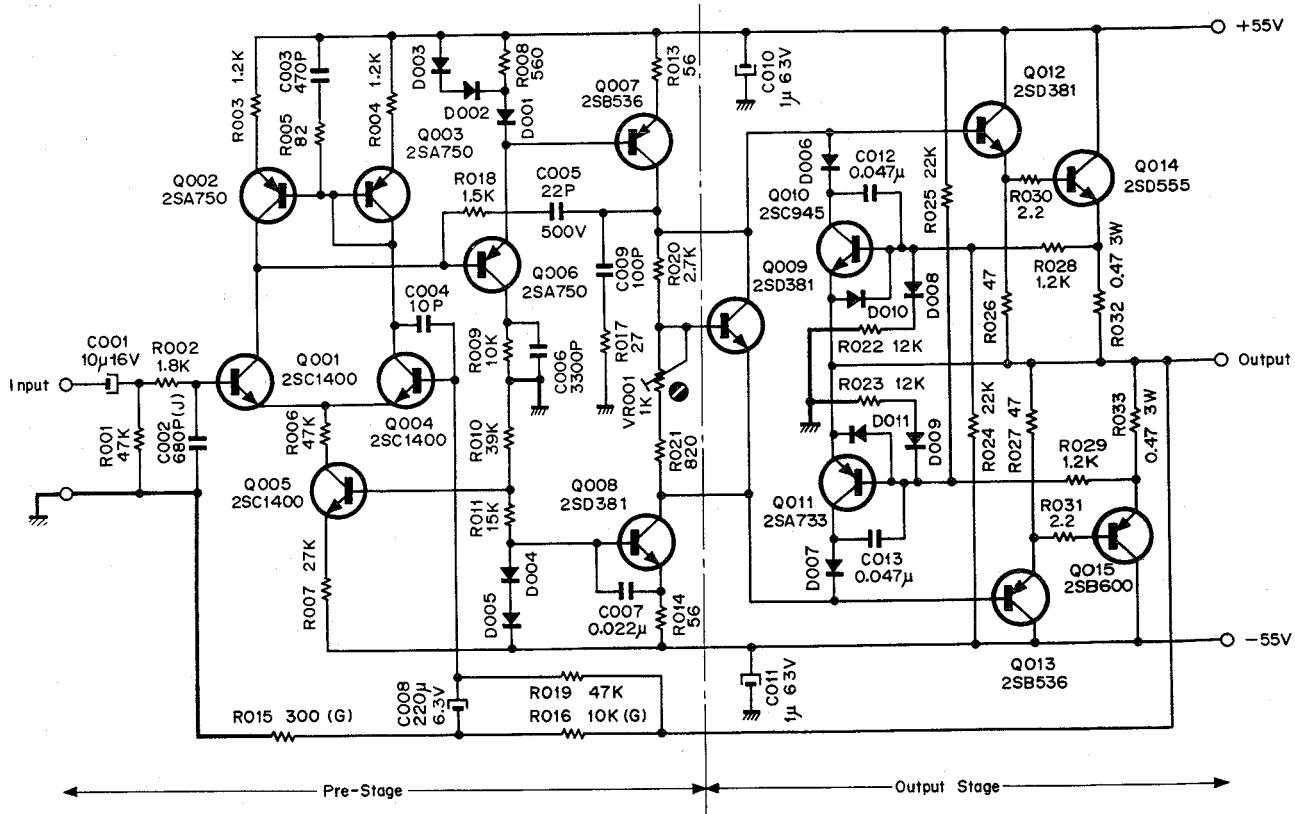
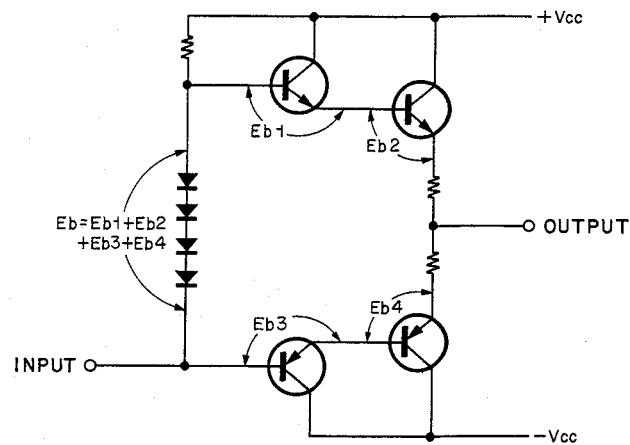

Fig. 2.5.8 Power Amplifier
Fig. 2.5.9 Conventional Circuit
Refer to Fig. 2.5.8.
Especially for a class B push-pull amplifier, distortion cannot be reduced unless the positive and negative signal amplifiers are well balanced. The amplifier in the N-730, however, is best balanced thanks to the vertically and horizontally symmetric configuration as shown in Fig. 2.5.8. This circuit allows distortion of only 0.1% at 1 kHz 105 watts output even without NFB. This degree of distortion is low enough to make the amplifier used as a high-fidelity unit even if it is given no NFB.
Fig. 2.5.9 shows that a change in current flowing across the diode varies the terminal voltage and that E_b changes with signal current. These changes result in the generation of distortion. It is a matter of course that signal current flowing across the diode will produce distortion. See Fig. 2.5.8. Transistor Q009 that generates bias voltage from an emitter-follower circuit of class A operation. Thus this circuit does not induce distorted signals.
For an ordinary class B amplifier, crossover distortion is reduced by increasing idling current thus overlapping the operating ranges of the positive and negative transistors. The overlap portion acts as a class A amplifier. Generally, the degree of amplification decreases where a change takes place from class A to B and no linear curve is obtained as shown a thick continuous line in Fig. 2.5.10 (A). However, if the circuit shown in Fig. 2.5.8 is current-driven, a linear curve can be obtained at the point of change from class A to B as shown in Fig. 2.5.10 (B).